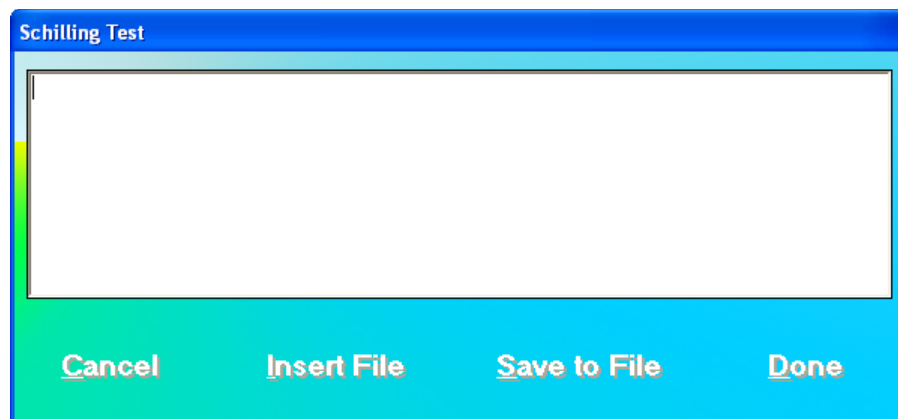

Figure 10-26
- To add comments to the report, click the **Enter Comment** button or press *Alt+C*. The screen appears as shown in Figure 10-26.